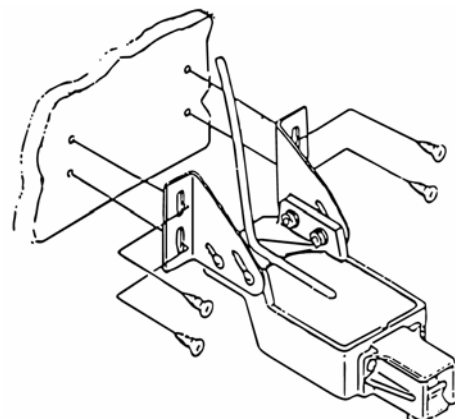

Figure 3
5. Fasten the transducer to the transom using the #10 x 3/4" screws. See Figure 3.